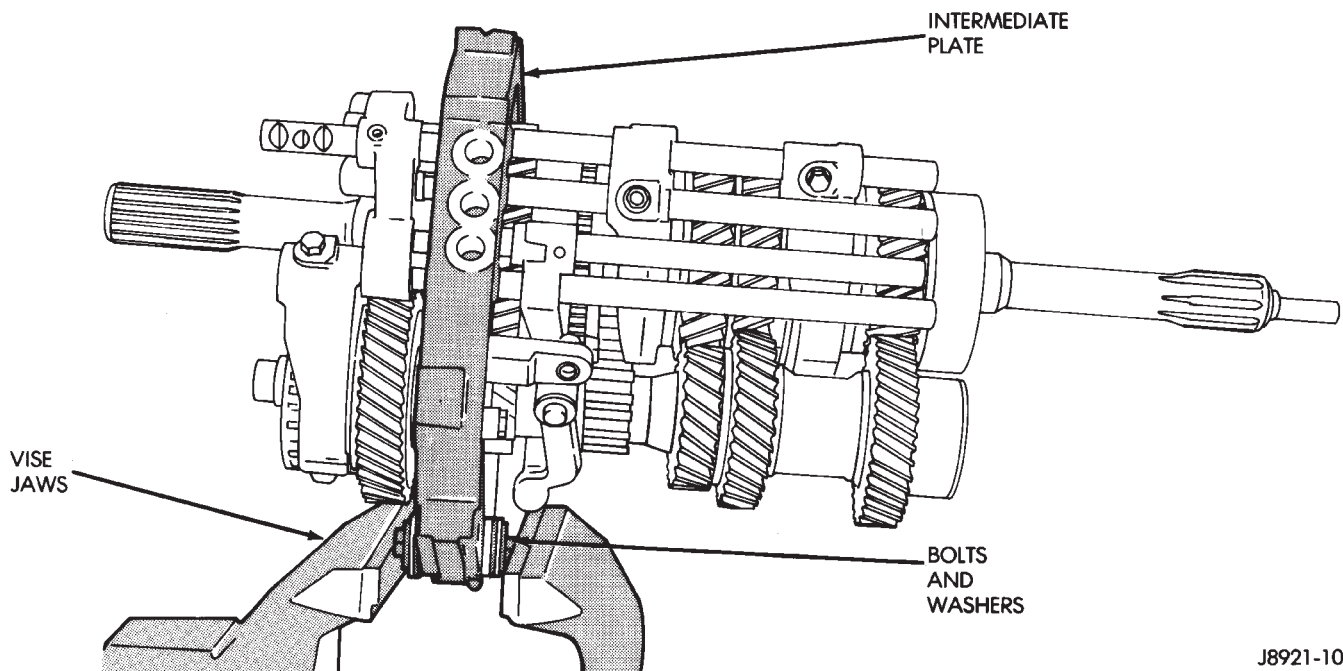

Fig. 51 Positioning Intermediate Plate In Vise
(1) Install suitable bolts and washers in intermediate plate (Fig. 51). Then clamp plate and gear assembly in vise. Use enough washers to prevent bolts from touching. Also be sure vise jaws are clamped on bolt heads.